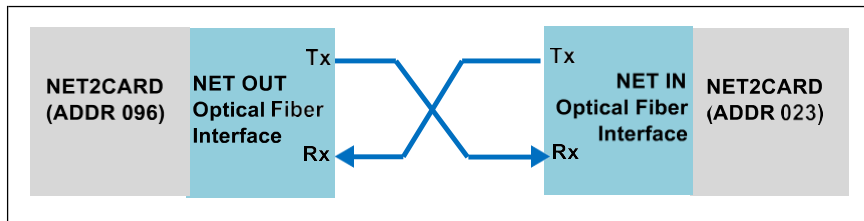

Figure 20-12: Network optical link
Either one or both of the optical fiber modules may be fitted on the NET2CARD. Each module has two fiber interface ports, one transmit (TX) and one receive (RX), so that full duplex data can be carried over the fiber interface. The transmit and receive ports from one fiber interface must be crossed over and connected respectively to the receive and transmit ports of the fiber interface at the other end of the link, see Fig 20.12